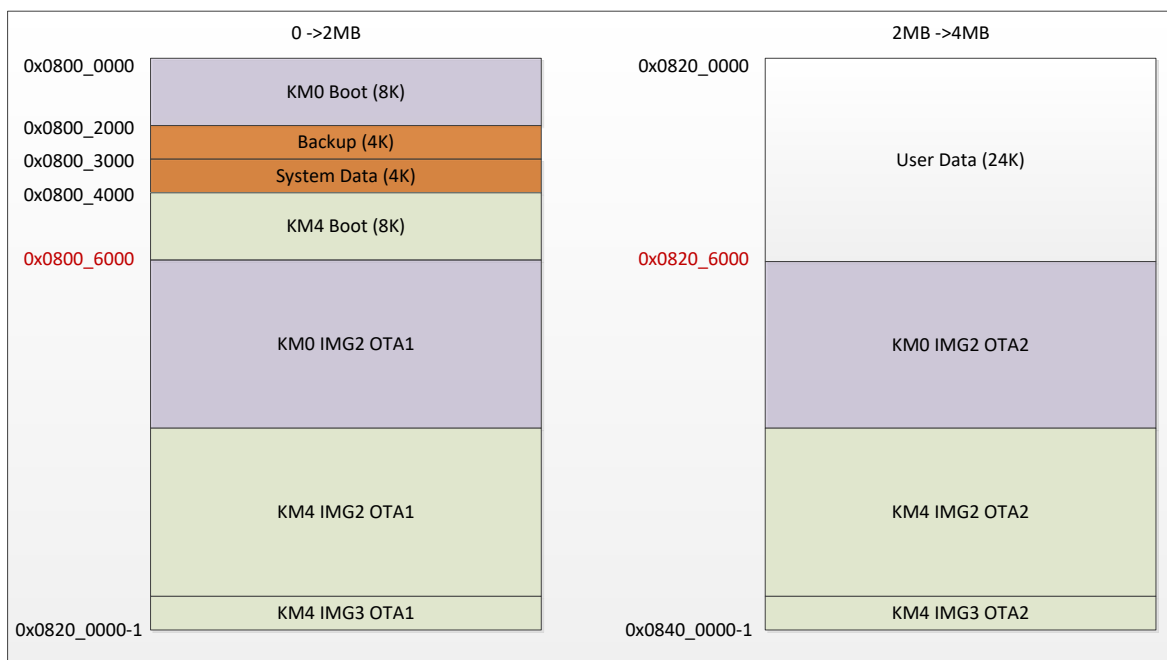

Fig 9-4 4M Flash program layout example
For 4M Flash, an example of Flash layout is illustrated in Fig 9-4. In this example, 2024K Flash size can be used for KM0 & KM2 image, and you can modify the layout according to your actual conditions. Because bootloader will be called by ROM code, the address of bootloader cannot be changed. Other addresses except bootloader can all be changed by user, but before you change these addresses, make sure that you are familiar with Ameba-D system and SDK.
- (1) Modify **OTA\_Region** in rtl8721d\_bootcfg.h, change OTA2 region start address according to your actual Flash layout. When using 4M Flash program layout example as shown in Fig 9-4, OTA region should be modified as below:
- (2) Modify OTA address definition in rtl8721d\_ota.h, redefine **LS\_IMG2\_OTA2\_ADDR** macro according to your actual Flash layout. When using 4M Flash program layout example as shown in Fig 9-4, OTA address should be modified as below:
- (1) For BT FTL start address, re-define **ftl\_phy\_page\_start\_addr** variable in rtl8721dhp\_intfcfg.c, note that SPI FLASH address base 0x0800\_0000 is subtracted when calculating ftl\_phy\_page\_start\_addr variable, and ftl\_phy\_page will consume 3\*4=12KB Flash starting from **ftl\_phy\_page\_start\_addr**. When using 4M Flash program layout example as shown in Fig 9-4, BT FTL start address should be modified as below:
- (2) For Wi-Fi fast connect profile address, redefine **FAST\_RECONNECT\_DATA** macro in platform\_opts.h, and SPI FLASH address base 0x0800\_0000 is subtracted when calculating FAST\_RECONNECT\_DATA macro. Note that Wi-Fi fast connect profile address should not recover the 12KB Flash starting from **ftl\_phy\_page\_start\_addr**, as this region is reserved for BT FTL. When using 4M Flash program layout example as shown in Fig 9-4, Wi-Fi fast connect profile address should be set to 0x202000+0x3000=0x205000.